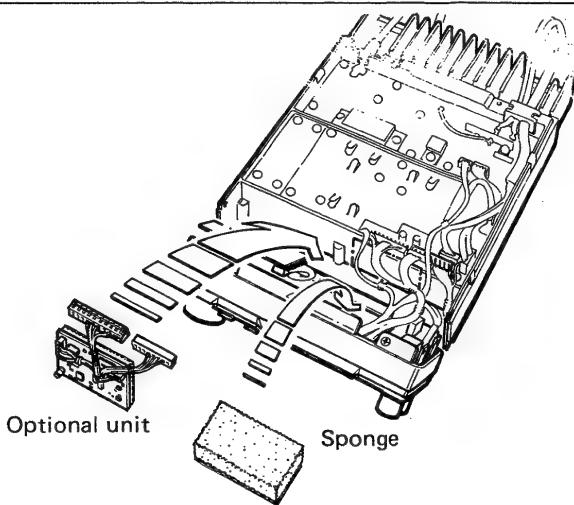

Fig. 3
- 3) Adhesive tape is applied to the sponge on the back of the optional UT-28 or UT-29 unit. Peel the protective paper from the sponge and attach the unit in the position shown in Fig. 3.
- 4) Peel the protective paper from the sponge that comes with IC-1200A/E, and attach the sponge to the IC-1200A/E in the position shown in Fig. 3.